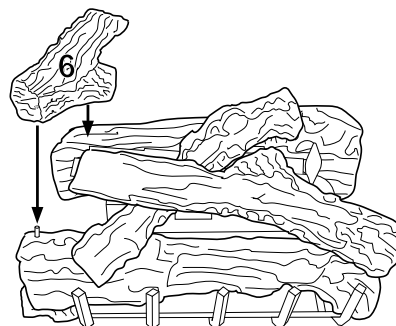

Figure 45 - Installing Log No. 6
6. Place log #6 (left log) onto left pin of front log (#2) and the smooth surface of rear log (#3) as shown in Figure 45. Make sure it is seated properly.